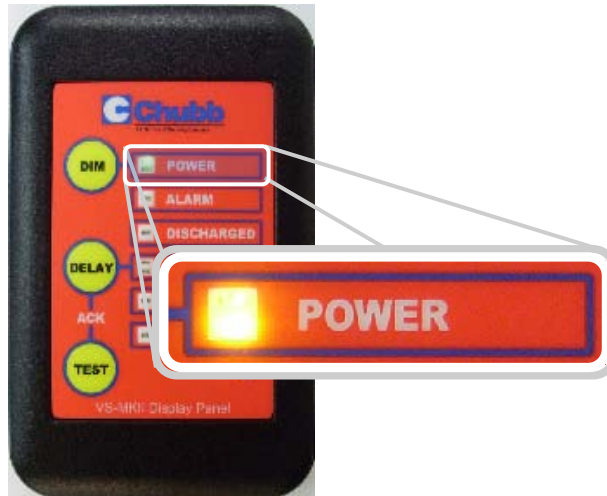

Figure 6 – Over voltage
- When the panel receives > 31 volts for a period in excess of 10 seconds the amber 'POWER' LED will light up (Fig. 6) but no audible or visual fault will be generated. In this state, the batteries will not be under charge.